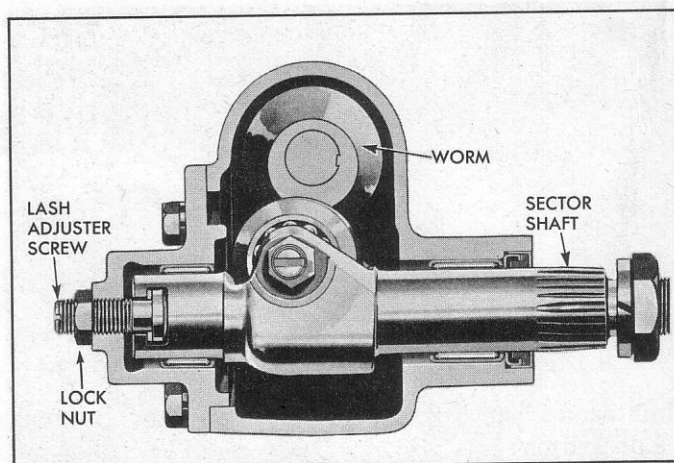

Fig. 2—Sector Gear Lash Adjustment
Needle bearings support the sector shaft (fig. 2) which is mounted at right angles to the wormshaft, in the housing. The sector roller is mounted on a double row ball bearing and a bolt running through this bearing attaches the roller to the sector shaft. As
2. Loosen the lock nut (fig. 2) and turn the lash adjuster a few turns in a counterclockwise direction. This removes from the worm bearings the load imposed by close meshing of worm and sector teeth. Turn steering wheel gently in one direction until stopped, then back away about one turn.
5. After proper adjustment of worm is obtained, and all mounting bolts tightened to 30-35 ft. lbs. torque, adjust lash adjuster (fig. 2). First turn the steering wheel gently from one stop all the way to the other, carefully counting the total number of turns. Then turn wheel back exactly halfway, to center position. Remove the steering wheel horn button and note position of mark on end of worm shaft. This mark should be at the top of the shaft. Mark wheel at top or bottom center with a piece of tape. Turn lash adjuster (fig. 2) clockwise to take out all lash in gear teeth, and tighten lock nut to 10-15 ft. lbs. torque. Turn steering wheel off the high spot, then check pull at wheel rim with checking scale as before, taking the highest reading of checking scale as the wheel is turned through center position. This should be between $\frac{7}{8}$ and $1\frac{1}{8}$ pounds. If the reading is not within the above limits, turn the wheel a half turn off the high spot and either tighten or loosen the adjuster as necessary. Then recheck the adjustment by again pulling through the high spot with the checking scale.
2. Loosen the lock nut on the end of the sector shaft (fig. 2), then turn the lash adjuster a few turns counterclockwise. This will remove the load from the bearings caused by the close meshing of the worm and sector teeth.